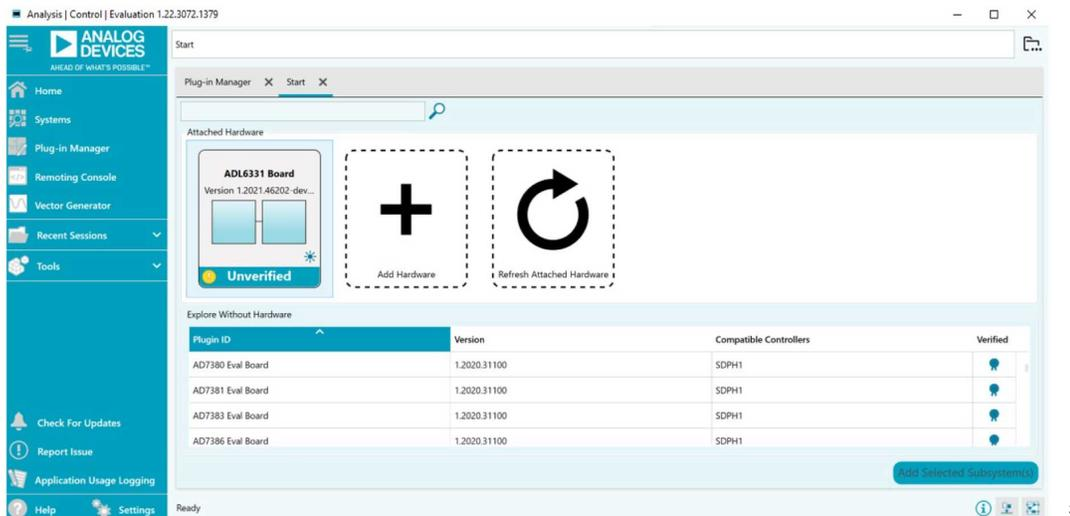
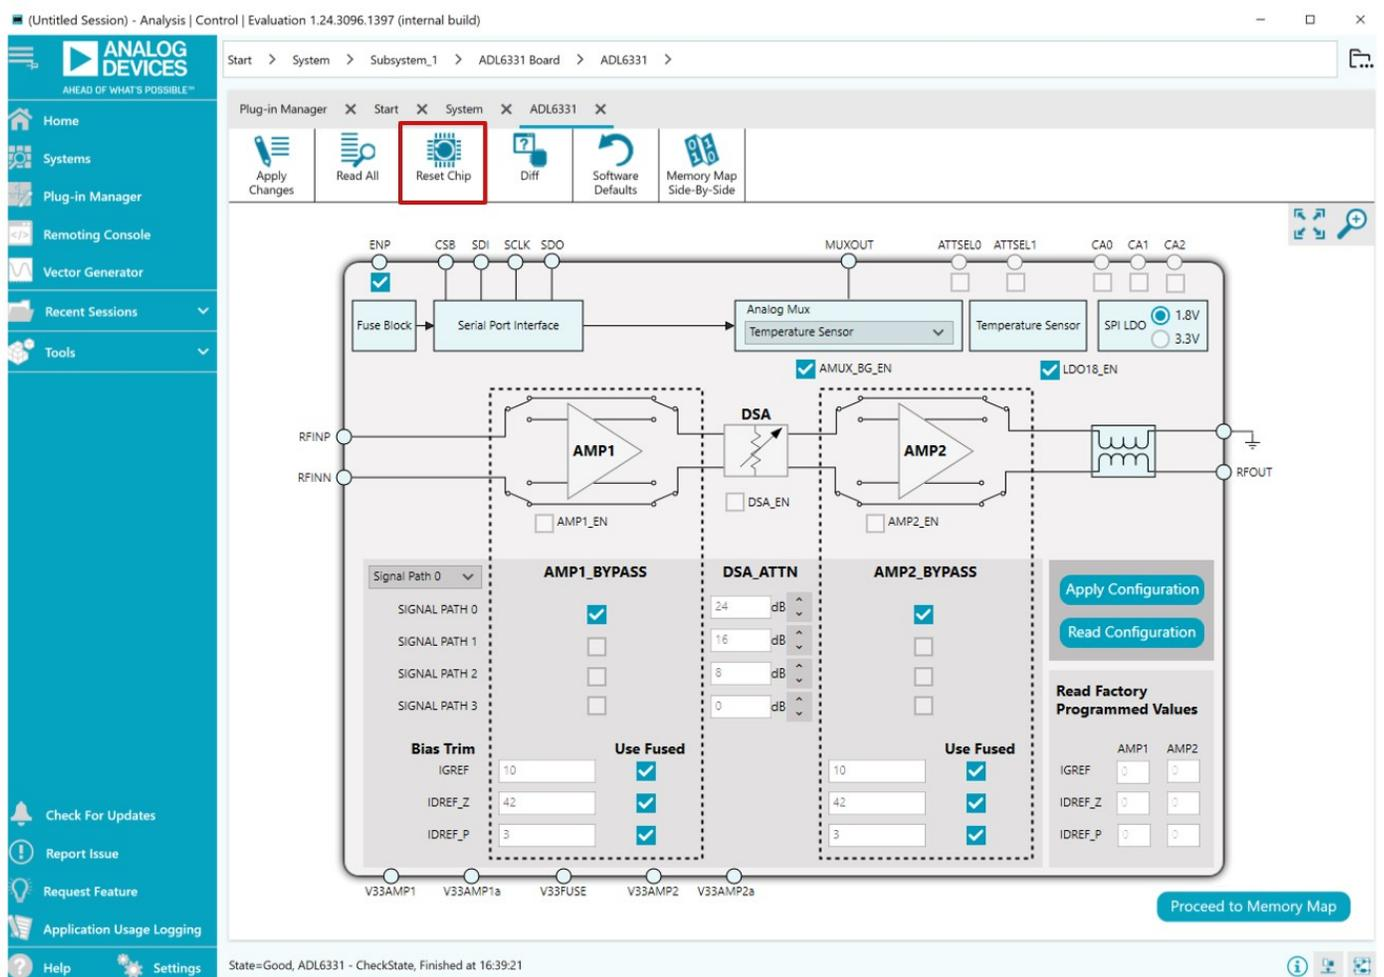

Figure 4. Initial ACE Start Page
Figure 5. ADL6331-EVALZA Board Level View (After Reset Chip and ENP Set to High)
3. Launch the ACE application. This action displays the initial ACE start page as shown in Figure 4. The ADL6331-EVALZA is detected automatically and displays under **Attached Hardware**. As soon as the ADL6331 is detected by the ACE software, the ACE software automatically sets ENP to high. However, since the AMP1, AMP2, and DSA blocks are all disabled by default, the current consumption is very low. Approximately 3 mA is observed at the 3.3 V supply.
4. Click the **ADL6331-EVALZA** icon shown in Figure 4 to open the evaluation board level view (see Figure 5). After opening, click **Reset Chip** before starting configurations.